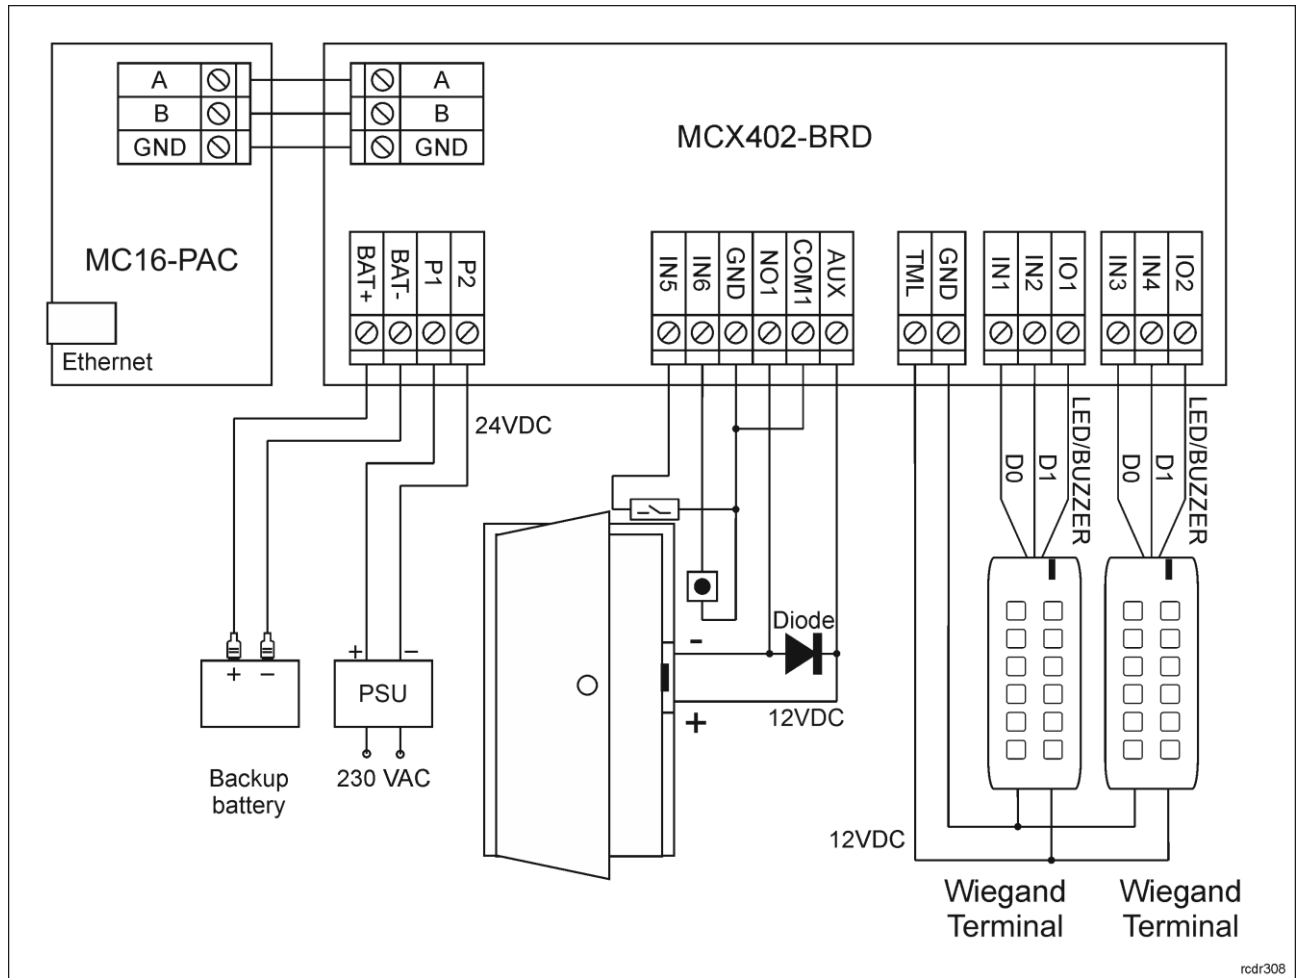

Fig. 6 Typical door control with Wiegand readers
4. Enter unoccupied RS485 address in range of 100-115, enable Wiegand or PRT terminals, configure input types (e.g. NC for IN5 according to fig. 6) and other settings according to requirements of specific installation.